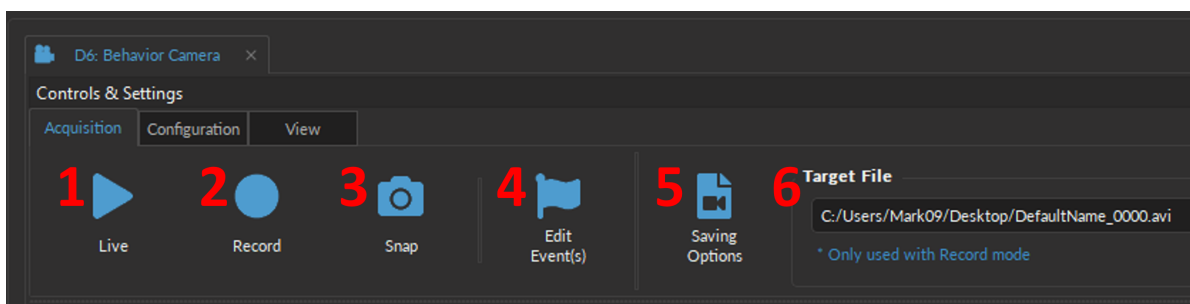

Figure 6.3: Control & Settings, Acquisition tab
The **Acquisition** tab (Fig. 6.3) contains the controls to start, stop, and save behavior footage, and includes the following elements:
1. The **Live** button (Fig. 6.3, 1) acquires images and displays them. These images are for display only and cannot be saved.
2. The **Record** button (Fig. 6.3, 2) acquires a continuous image stream and saves it to a user-defined file as one .MP4 file.
3. The **Snap** button (Fig. 6.3, 3; NOT available for the *Web Camera* module) will take a picture and automatically open a window where users can save the image in a variety of available file formats (including .bmp, .jpeg, .tiff, among many more).
4. The **Edit Event(s)** button (Fig. 6.3, 4) opens the **Keypress Event(s)** window, which allows users to flag behavior events or experimental disruption at the press of a keyboard key. See Section 6.1.5.